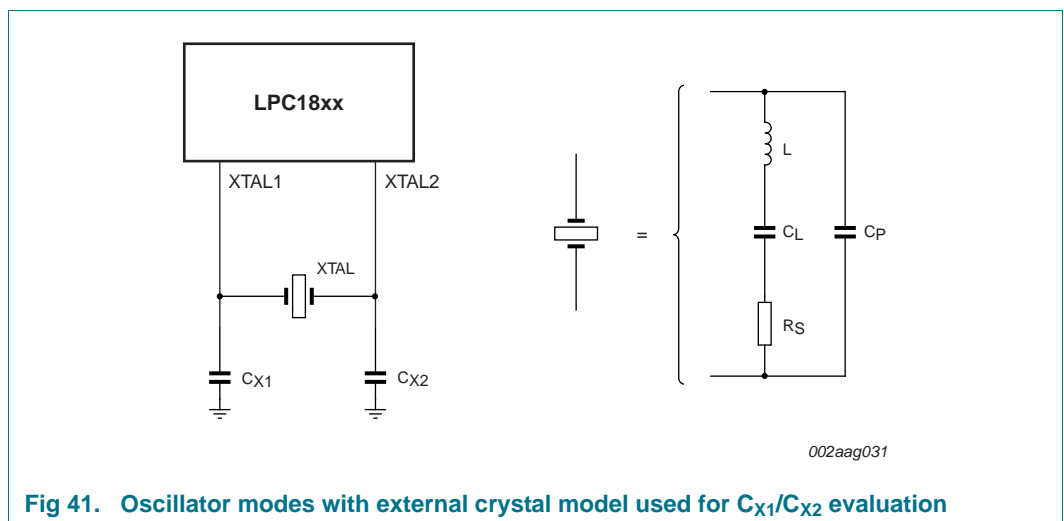

Fig 41. Oscillator modes with external crystal model used for C_{X1}/C_{X2} evaluation
- External components and models used in oscillation mode are shown in Figure 41, and in Table 37 and Table 38. Since the feedback resistance is integrated on chip, only a crystal and the capacitances C_{X1} and C_{X2} need to be connected externally in case of fundamental mode oscillation (L , CL and RS represent the fundamental frequency). Capacitance C_P in Figure 41 represents the parallel package capacitance and must not be larger than 7 pF. Parameters FC , CL , RS and CP are supplied by the crystal manufacturer.